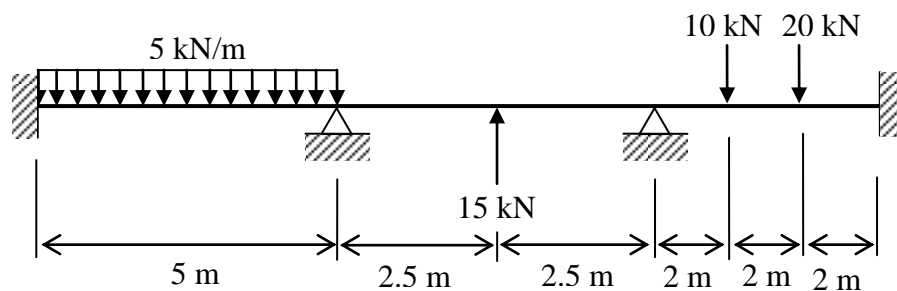

Figure 6
- (b) A beam shown in **Figure 6** is loaded with uniformly distributed and point loads. Compute the plastic moment for the beam loaded as shown by virtual work method.